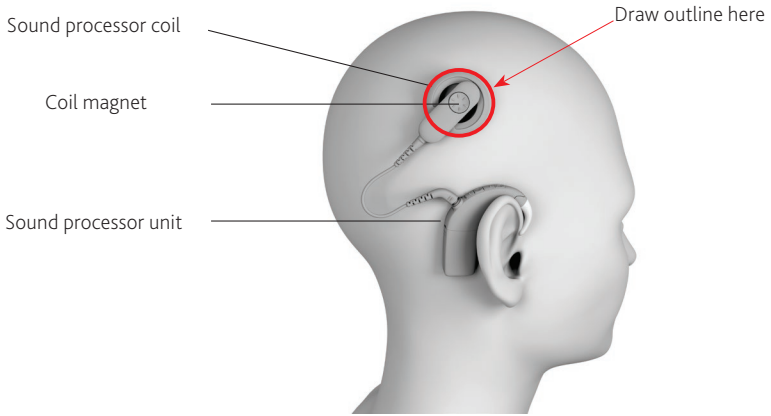
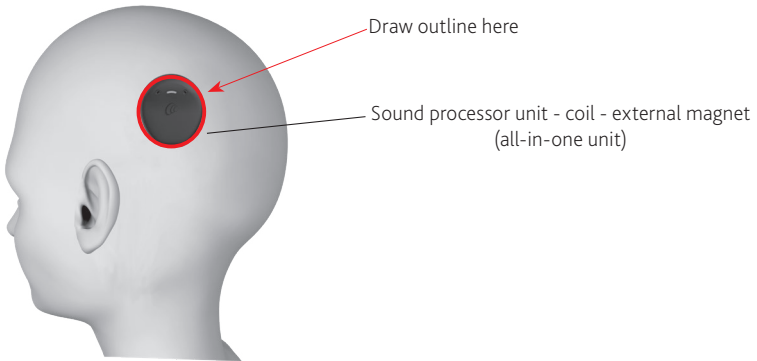

Figure 3: Location of the BTE (behind the ear) sound processor unit, sound processor coil and coil magnet
Figure 4: Location of the OTE (off the ear) sound processor unit, coil and external magnet
1. Prior to entering the MRI room and before removing the sound processor, draw an outline of the BTE sound processor coil or OTE all-in-one unit on the patient's head - see *Figure 3* and *Figure 4*. Once the sound processor has been removed, mark the centre position of the outline; this is the implant magnet location. If necessary, shave the patient's head at the implant magnet location so this marking is more visible and easier to locate during the splinting process. This marking is essential to ensure that the splint is placed in the correct location. Repeat this step for bilateral recipients.